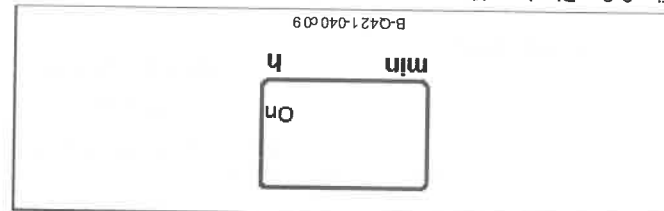

Fig. 9-2 Display without power supply
- no segment or LED displayed (Fig. 9-2)